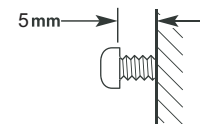
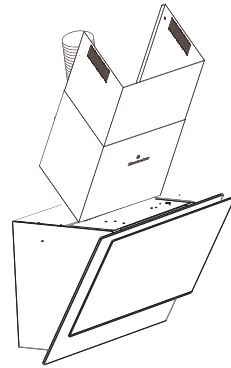

Fig.7
Fig.12
- Install the flue cover mounting bracket with screws to the wall as marked (Fig.7). Please mounted if recirculating mode is used. (Fig.12)
- Using a 9mm drill bit, enlarge the pilot holes and insert the plastic wall anchors (BB) into the wall along the line as reference point. Insert screws and leave a 5mm (Fig.7) gap between the wall and the back of the screw head to slide the range hood into place. Ensure the screws and anchors (AA and BB) are parallel with the horizontal line.
Separate the flue covers section. Carefully reassemble the upper and lower flue covers sections by sliding the inner into the outer flue cover. Carefully lower the assembled upper and lower flue covers onto the top of cooker hood body. Fix upper flue cover to the mounting bracket with screws supplied. Ensure that the upper section is extended (Fig.12) .